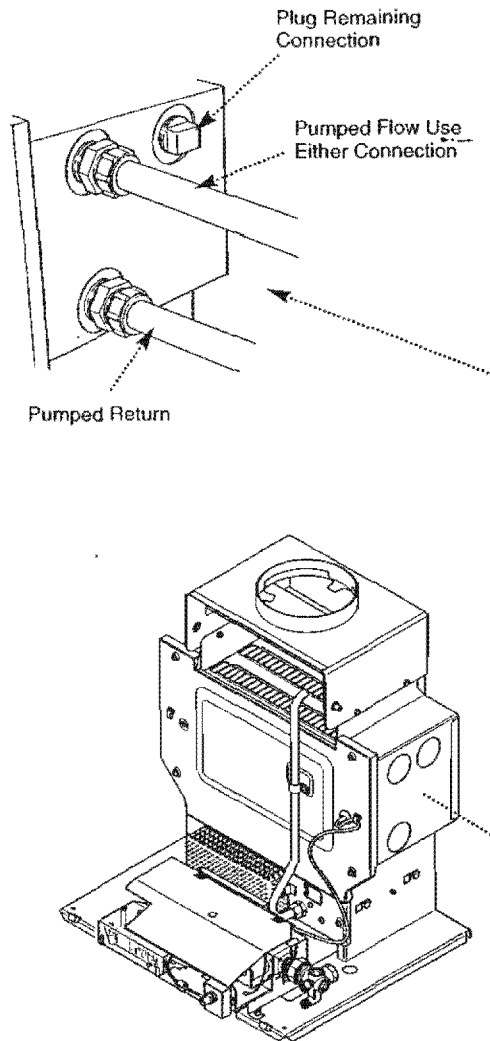

Fig. 16
6.8 Fully Pumped Systems (Fig. 16)